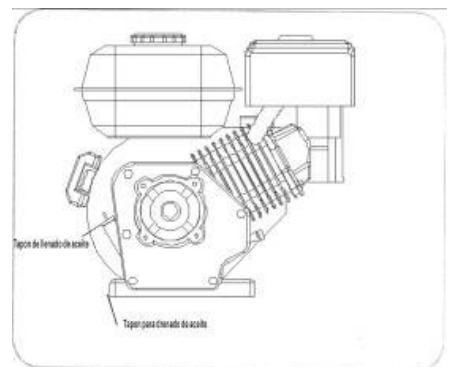

Figure 28
2. Unscrew oil fill cap from oil filler tube and wipe dipstick clean. See Figure 28.
1. Locate the oil drain plug, See Figure 28.
3. Clean area around oil drain plug, See Figure 28.